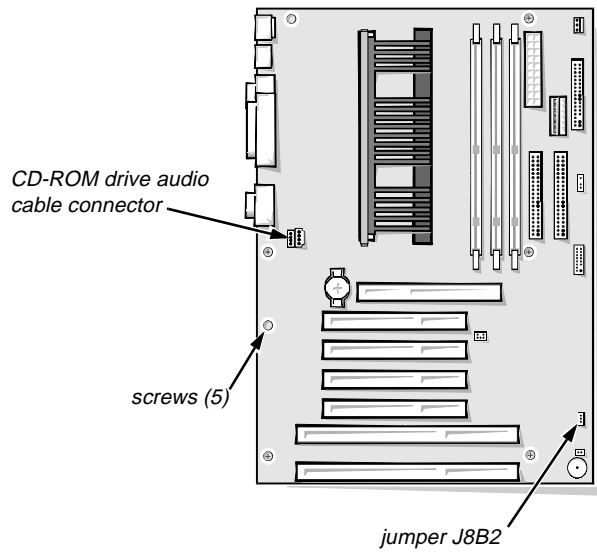

Figure 3. System Board Mountings (Five Screws)
- 4. Determine how the system board is mounted in the computer (see Figures 3, 4, and 5).**
- 5. If the system board is secured to the chassis with five screws (see Figure 3), remove the screws and then skip to step 8.**
When reconnecting the cables to a system board with integrated sound, be sure to connect the CD-ROM drive audio cable to the connector nearest the back edge of the system board (see Figures 3, 4, and 5). The modem audio cable connector may be used with a modem.
- 1. Install the jumper plug on pins 2 and 3 of system board jumper J8B2 (see Figures 3, 4, and 5) to select Maintenance mode.**